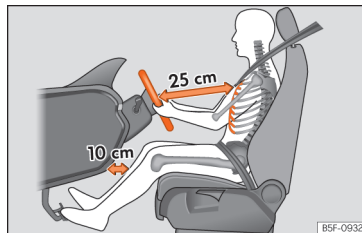

Fig. 20 The correct distance between the driver and the steering wheel must be at least 25 cm [10 inches].
- Adjust the steering wheel so that it is at a distance of at least 25 cm (10 inches) from the sternum »» Fig. 20 and can hold it with both hands on the sides, on the outside, with the arms slightly flexed.